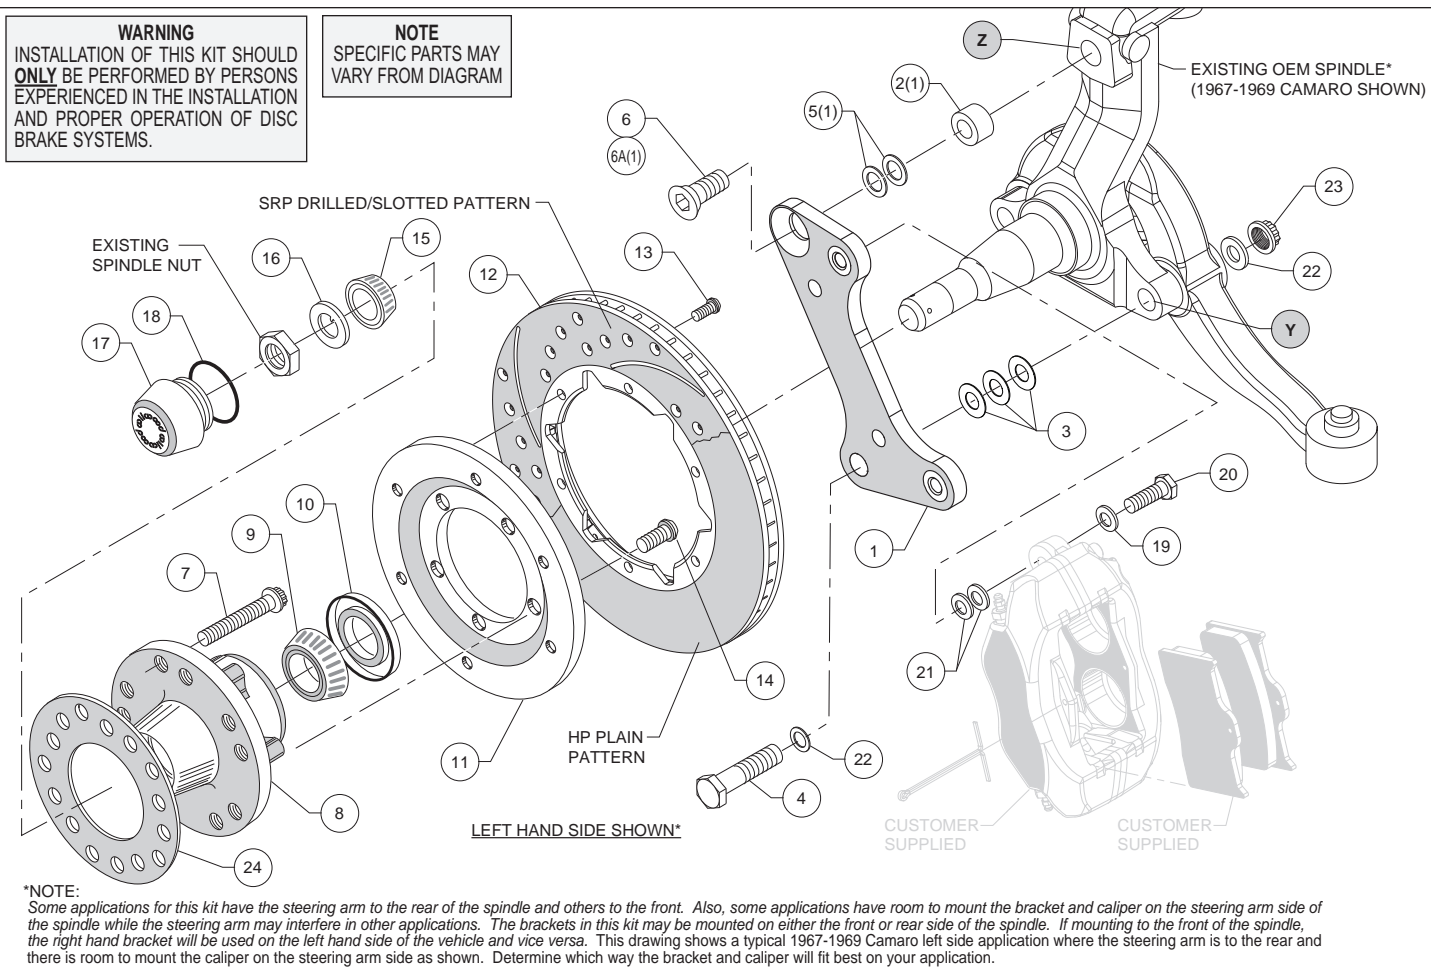
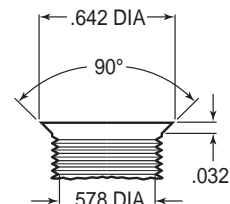
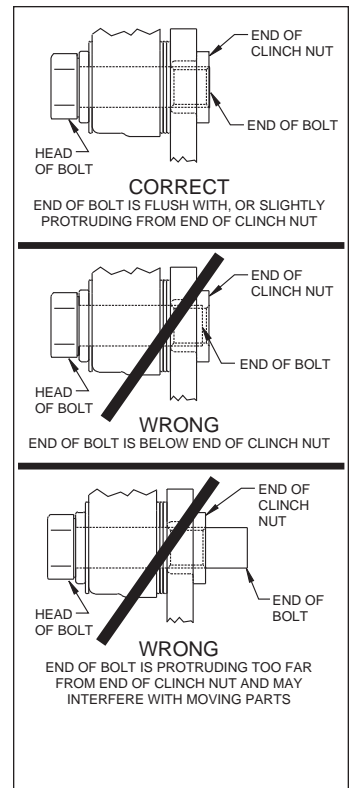

Figure 1. Typical Installation Configuration
Figure 3. Drill and Tap Detail
Figure 4. Clinch Nut Engagement Diagram
Assembly Instructions (numbers in parenthesis refer to the parts list and Figure 1 on the preceding page): **CAUTION:** All mounting bolts must fully engage clinch nuts. Be sure to check that all bolts are either flush or protruding through flanged side of clinch nut after shimming, Figure 4.
•**NOTE:** Some applications for this kit have the steering arm to the rear of the spindle and others to the front. Also, some applications have room to mount the bracket and caliper on the steering arm side of the spindle while the steering arm may interfere in other applications. The brackets in this kit may be mounted on either the front or rear side of the spindle. If mounting to the front of the spindle, the right hand bracket will be used on the left hand side of the vehicle and vice versa. Figure 1 shows a typical 1967-1969 Camaro left side application where the steering arm is to the rear and there is room to mount the caliper on the steering arm side as shown. Determine which way the bracket and caliper will fit best on your application.
•**NOTE:** Some spindles in this year range may require the following modifications (reference Figure 1 and Figure 3): Top anchor pin hole (Z) must be drilled and tapped to the dimensions as outlined in Figure 3. The lower bolt hole (Y) in the spindle used to mount the new caliper bracket, and the mating steering arm hole, must be enlarged to .50" by drilling. It is recommended these modifications be performed by a qualified machinist.
•Install wheel studs (7) into the hub (8), Photo 1. Torque to 77 ft-lb. **NOTE:** There are two five lug patterns in the hub (5 x 4.50 and 5 x 4.75). Ensure the correct hub stud pattern is being used to fit the wheel application.
- Orient the rotor (12) and the rotor adapter (11) as shown in Figure 1 and Photo 3. Attach the rotor to the adapter using bolts (13). Using an alternating sequence, apply red *Loctite*® 271 to the threads, and torque to 25 ft-lb.
- Mount the adapter/rotor assembly (11 and 12) to the hub (8) using bolts (14), as shown in Figure 1 and Photo 4. Using an alternating sequence, apply red *Loctite*® 271 to the threads, and torque to 45 ft-lb.
- Disc Brake Spindle Application Only:** Follow the instructions below, but instead use bolt (6A), spacer (2), and two .050" thick washers (5) in the upper bolt hole location, Figure 1.
- Orient the flat bracket (1) as shown in Figure 1 and Photo 5, and install using bottom bolt (4), washers (22), and nut (23), Figure 1. Initially place three .032" thick shims (3) between the bracket and spindle. Install the upper bolt (6 or 6A), Photo 6. Temporarily tighten bolts. **NOTE:** *The bracket must fit squarely against the mounting surfaces on the spindle.* Inspect for interference from casting irregularities, machining ridges, burrs, etc. Ensure that the flanged heads of the clinch nuts in the bracket are facing outboard. Temporarily install the hub/rotor assembly. Check that the bracket is aligned parallel to the rotor, Photo 7. If not, adjust by adding or subtracting shims (3) on the lower bolt between the bracket and spindle, Figure 1. Once the bracket alignment is correct, remove the upper bolt (6 or 6A), apply red *Loctite*® 271 to the bolt threads, and torque to 120 ft-lb. Torque the lower lock nut to 65 ft-lb.
- Pack the small outer bearing cone (15) with high temperature disc brake bearing grease and install into hub (8). Slide the hub/rotor assembly onto the spindle. Secure using spindle washer (16) and OEM spindle nut, Photo 8. Adjust bearings per OEM specifications. Install saved OEM nut lock (if any) and a new cotter pin (not included).
- Screw dust cap (17) into hub (8). Friction created by the o-ring (18) on the dust cap keeps it from unscrewing. **NOTE:** *The O.D. of the existing OEM spindle washer may be larger than the I.D. of the dust cap not allowing it to seat against the hub face. Therefore, use the spindle washer (16) supplied with the kit instead of the OEM washer.*
- NOTE:** *Please reference the caution statement at the beginning of the assembly instructions.* Mount the caliper (customer supplied) onto the caliper bracket (1) using bolts (20) and washers (19), as shown in Figure 1. Initially place two .035" thick shims (21) on each bolt between the caliper and the bracket. Temporarily tighten the mounting bolts and view the rotor (12) through the top opening of the caliper. The rotor should be centered in the caliper. If not, adjust by adding or subtracting shims (21) between the bracket and the caliper. Always use the same amount of shims on each of the two mounting bolts. **NOTE:** *The end of the bolt must be flush with or slightly protruding from the head of the clinch nut in the bracket.* If necessary, place spare shims between the washer and the caliper mounting ear to achieve the proper clinch nut engagement, as shown in Figure 4. Once the caliper alignment is correct, remove the bolts one at a time, apply red *Loctite*® 271 to bolt threads, and torque to 40 ft-lb.
- Install the disc brake pads (customer supplied) into the caliper, with the friction material facing the rotor (12) and secure in place using cotter pin (customer supplied).
- Temporarily install wheel and torque lug nuts to manufacturer's specification. Ensure that the wheel rotates freely without any interference. **NOTE:** *Wheel spacer (24) MUST be used if any wheel contact surfaces overhang the outside diameter of the hub face. See warning on page 3.*